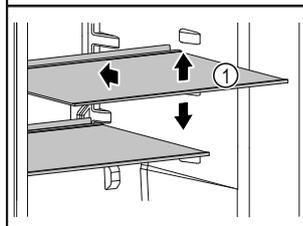

Fig. 66 Example illustration
- If storage surfaces Fig. 66 (1) are movable, adjust them according to height.